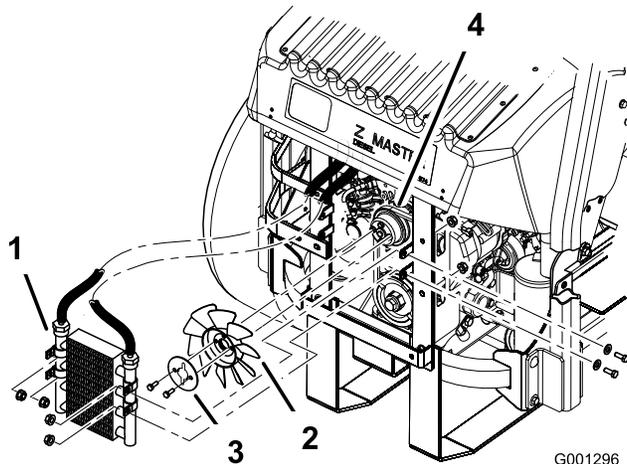

Figure 64
5. Remove the 4 bolts holding the oil cooler and position the oil cooler to the side (Figure 64).
6. Remove the 2 bolts holding the fan and fan plate to the machine (Figure 64).
10. Install the fan and fan plate to the machine with the 2 bolts previously removed (Figure 64).
11. Install the oil cooler with the 4 bolts previously removed (Figure 64).